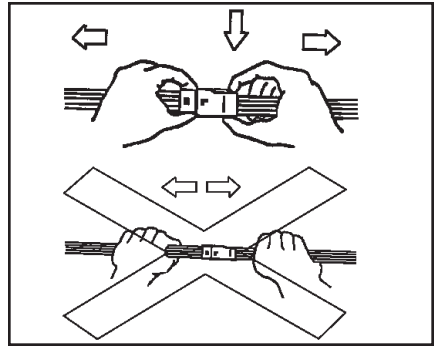

Figure 1
- a. When disconnecting, hold connector and press the lock downward while pulling connectors apart. **Figure 1**